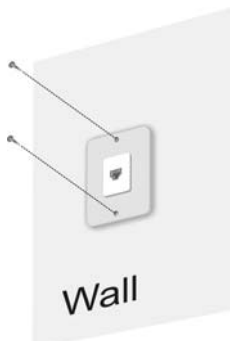

Figure 2.17: Phone jack removal
- Step 1** Remove necessary existing phone jacks as shown in Figure 2.17.